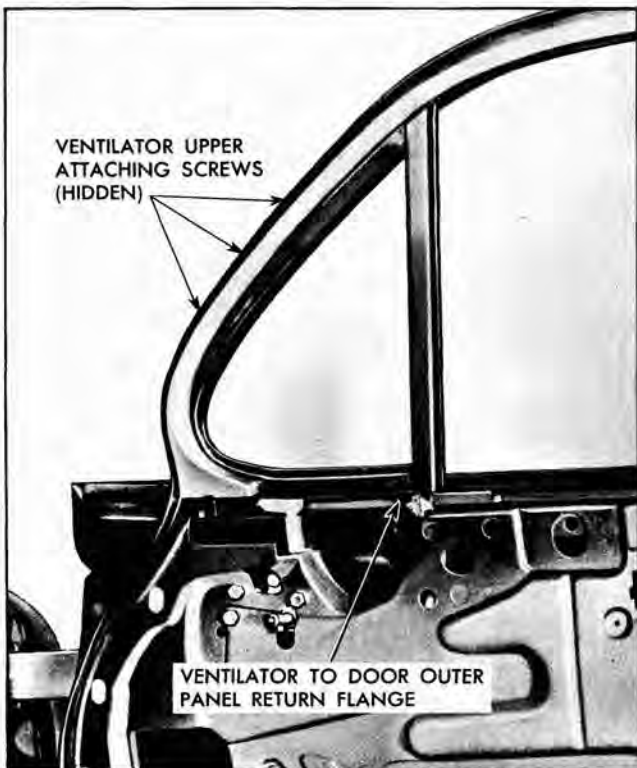

Fig. 3-26 Ventilator Regulator—Sedans
3. Lower door window. Remove ventilator to door outer panel return flange attaching screw (Fig. 3-26).